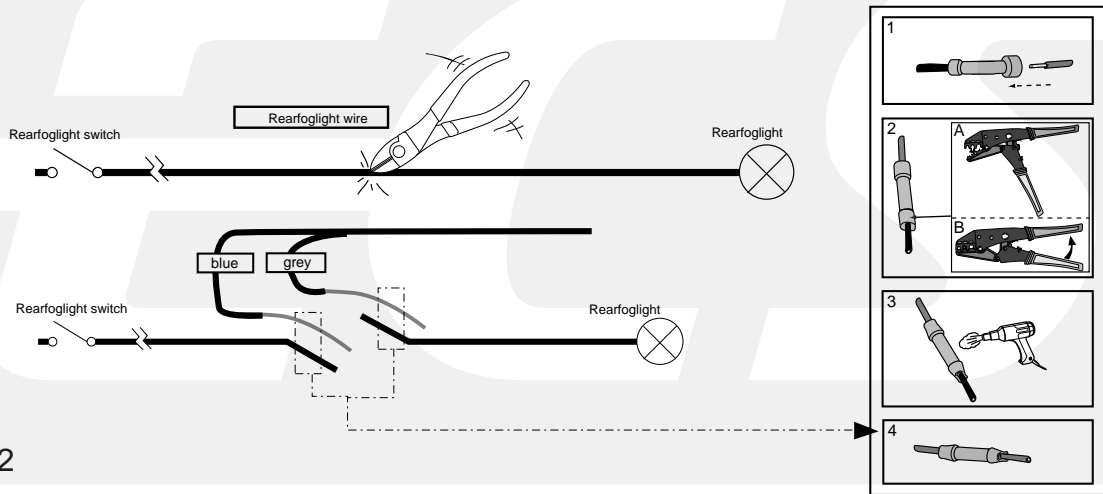

Fig. 2
5. Connecting the rearfog lights: see fig. 2